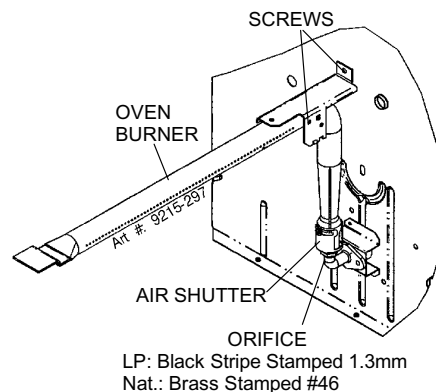

FIGURE 4
#### d. Adjust oven burner (see figure 4).
- Remove the oven burner by removing the screw from the pilot bracket and the oven burner bracket (see figure 4). Use caution in removing pilot bracket.
- Replace with orifice hood with a black stripe stamped 1.3 mm using a 1/2" wrench or socket and turning the hood clockwise approximately (6) complete turns.
- Remove all (4) surface burners.
- Remove all (4) orifice hoods from the valve by using a 1/2" wrench or socket and turning the hood counter- clockwise.
- Replace with the brass colored hoods stamped .54 by using a 1/2" wrench or socket and turning the hood clockwise approximately (6) complete turns.
- Close the air shutters on the burners so that 1/4" of the square hole is covered (see figure 4).
- Remove the oven burner by removing the screw from the pilot bracket and the oven burner bracket (see figure 4).
- Replace with orifice hood with a brass hood stamped #46 using a 1/2" wrench or socket and turning the hood clockwise approximately (6) complete turns.